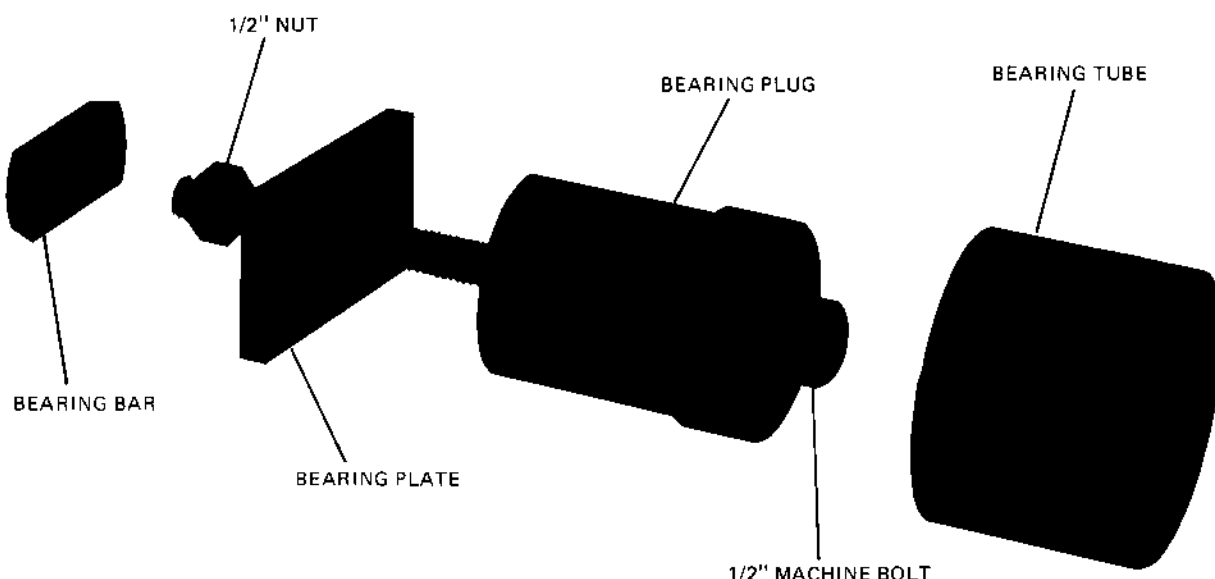
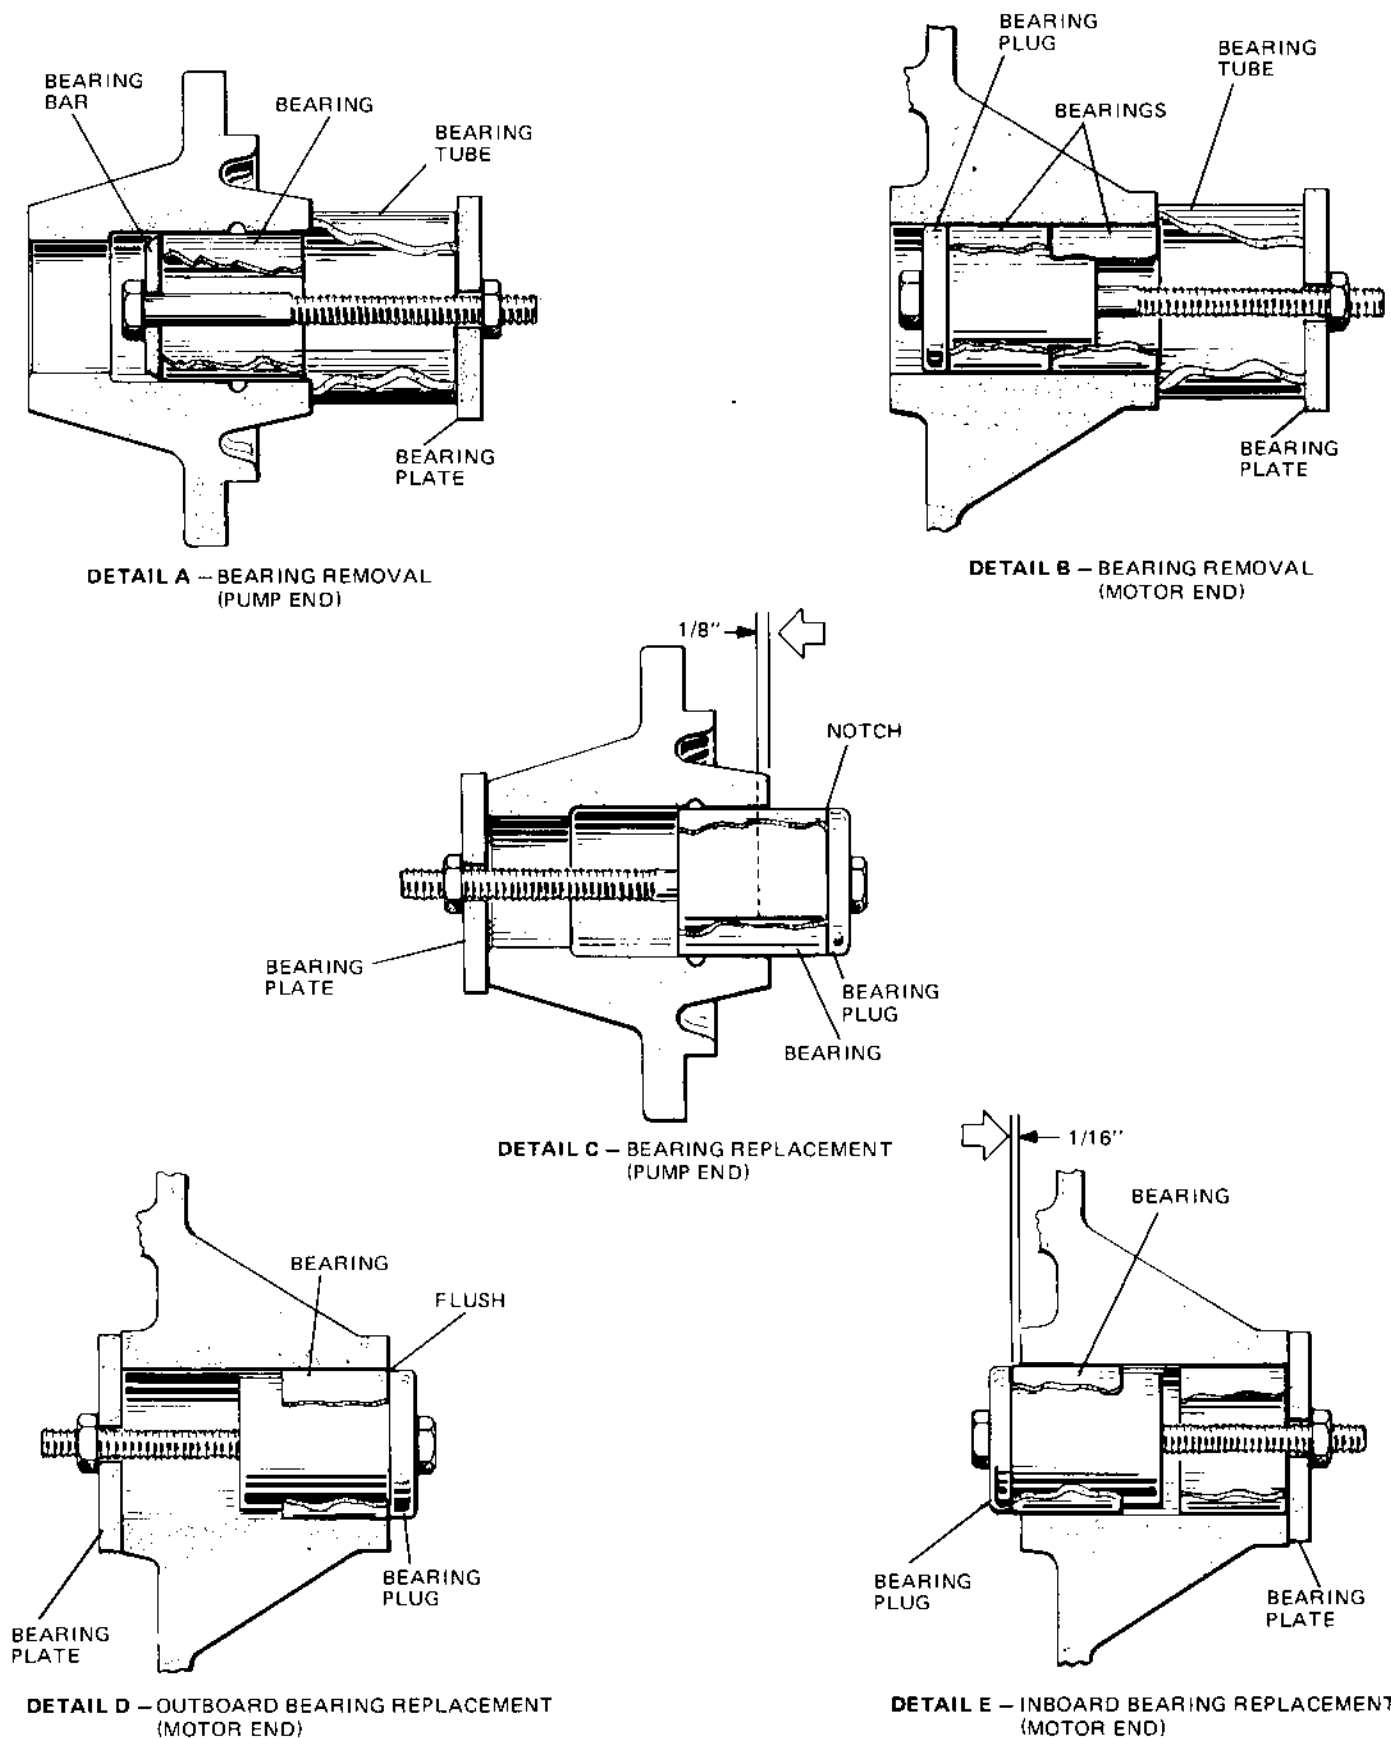

FIG. 10 — BEARING REPLACEMENT TOOL
FIG. 11 – BEARING REMOVAL AND REPLACEMENT
However, if required, main bearings may be replaced in the field. Refer to Figs. 10 and 11 and proceed as follows:
3. Using the bearing replacing tool (See Fig. 10) pull the worn bearings out of both the pump end bearing head and the compressor bearing housing. Since the outboard opening of the pump end bearing head is smaller than the diameter of the bearing, this bearing must be removed and replaced through the inboard opening using the bearing bar as illustrated in Fig. 11, Detail A. Both bearings at the motor end of the compressor should be removed simultaneously using the bearing plug. (See Fig. 11, Detail B.)
Using the bearing replacing tool as shown in Fig. 11, Detail C; pull the pump end bearing into the pump end bearing head, taking care to enter the bearing evenly and squarely. Note that the bearing must be drawn in 1/8" below the inside of the bearing head.
The OUTBOARD bearing must be installed before installing the inboard bearing. Using the bearing replacing tool as shown in Fig. 11, Detail D; install the OUTBOARD bearing, pulling it in evenly and squarely until it is flush with the bearing housing. After the outboard bearing is installed properly, install the inboard bearing (using the bearing replacing tool as shown in Fig. 11, Detail E) drawing it in evenly and squarely until it protrudes 1/16" beyond the inside of the bearing housing. This 1/16" serves to locate the thrust collar.